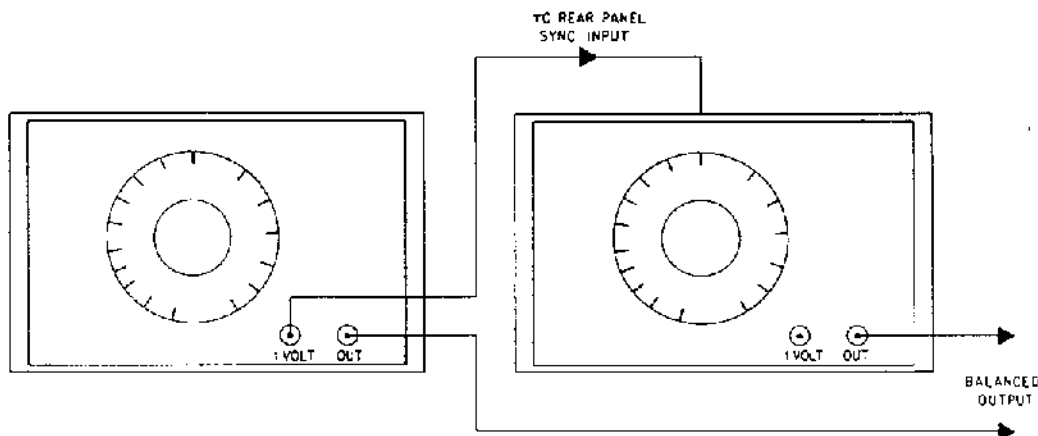

Figure 4.1 Synchronized RC Oscillators
- b. RC Oscillator: frequency range from 10Hz to 10MHz with balanced output. Two Krohn-Hite Model 4300B (operating in synchronism as shown in Figure 4.1) or HP Model 654A.
Connect the output of one RC oscillator to the REFERENCE input of the phasemeter and the output of another RC oscillator to the SIGNAL input. Set both oscillators to the sine wave mode. Balanced output, as shown in Figure 4.1, is obtained by synchronizing the two oscillators. Set both oscillators to 100kHz and their amplitudes to 0.5Vrms. Fine tune one oscillator, by monitoring both oscillators on a suitable scope, to obtain balanced output. Record the phase reading.